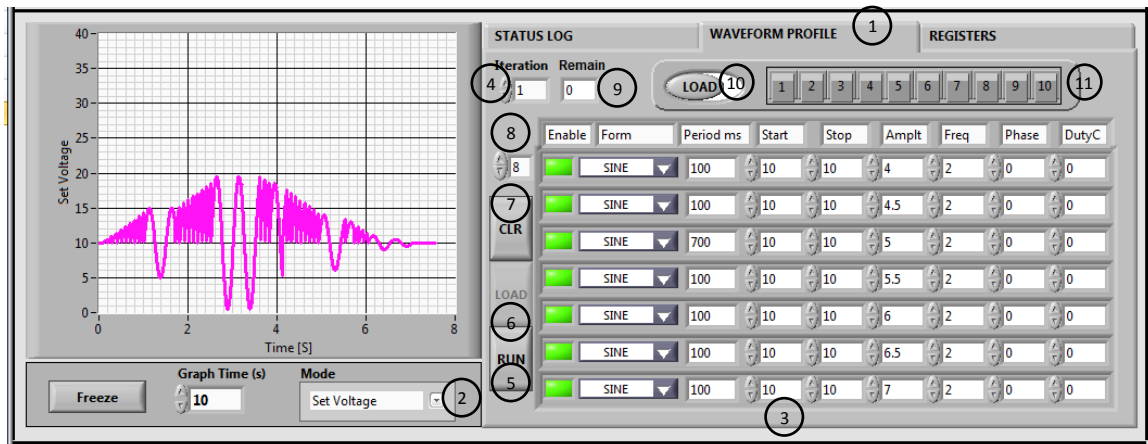

Figure 14
- 1.1. Select “WAVEFORM PROFILE” (1). Refer to Figure 14.